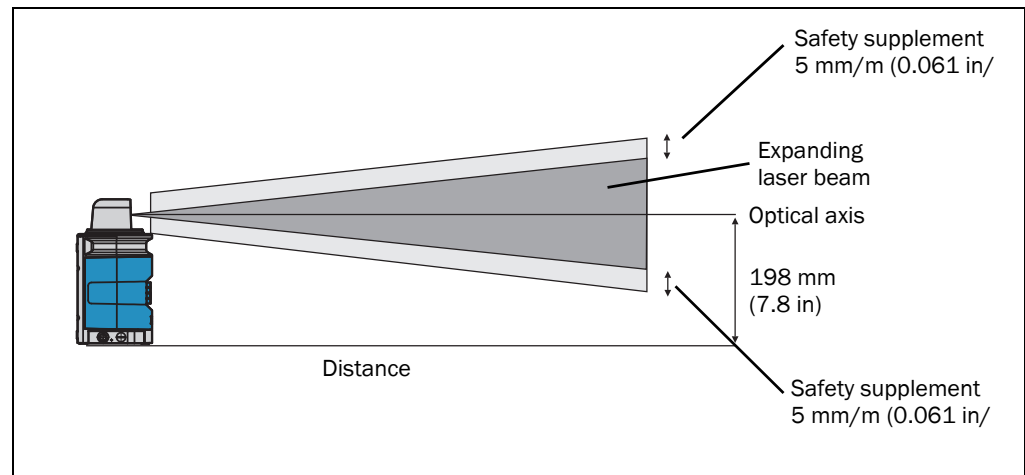

Fig. 18: Increase in the size of the beam and safety supplement
**Important** Use a safety supplement of 5 mm (0.2 in) per metre top and bottom (see fig. 18 on page 32).